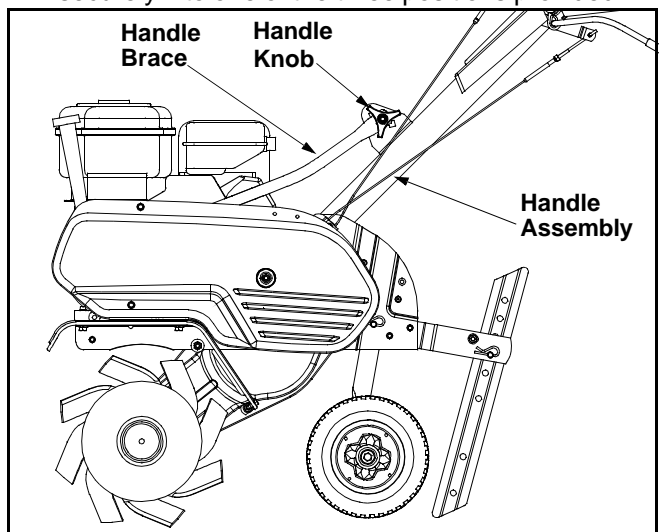

Figure 2
- Remove the handle knob and hardware from the handle brace. Insert the carriage screw through the welded bracket on the handle and into the end of the handle brace. See Figure 2.